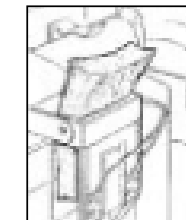
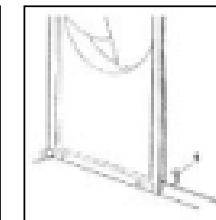

Fig 16.
Fig 17.
- 5) Unlock the sensor and the baffle by removing the transit packaging 1 and tape 2, which have been applied to avoid any damage during transportation (Fig.16 & Fig.17).